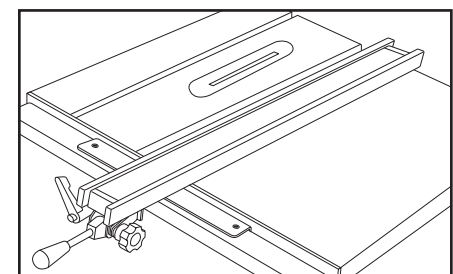

Figure 5
1. Place the fence next to the outside edge of the right miter slot, and engage the main fence lock. Figure 5.